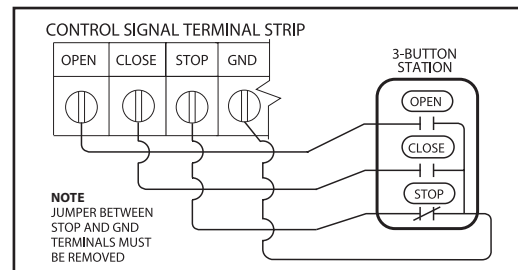

Figure 3
- 1) For a single 3-button installation, make connections as shown in **Fig. 3.**